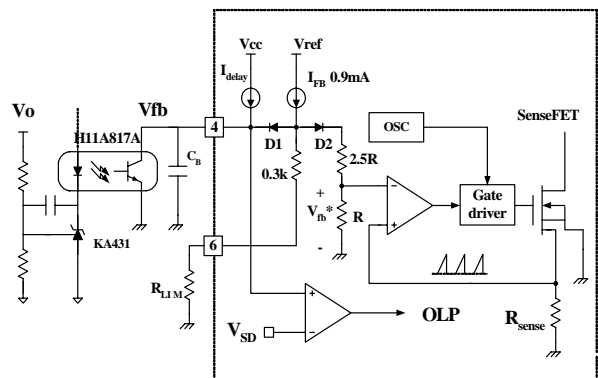

Figure 18. Pulse Width Modulation (PWM) Circuit
**2. Feedback Control:** The FSCM0765R employs current mode control, as shown in Figure 18. An opto-coupler (such as the H11A817A) and a shunt regulator (such as the KA431) are typically used to implement the feedback network. Comparing the feedback voltage with the voltage across the Rsense resistor makes it possible to control the switching duty cycle. When the reference pin voltage of the KA431 exceeds the internal reference voltage of 2.5V, the H11A817A LED current increases, thus pulling down the feedback voltage and reducing the duty cycle. This event typically happens when the input voltage is increased or the output load is decreased.
**2.1 Pulse-by-pulse Current Limit:** Because current mode control is employed, the peak current through the SenseFET is determined by the inverting input of the PWM comparator (Vfb\*) as shown in Figure 18. When the current through the opto transistor is zero and the current limit pin (#5) is left floating, the feedback current source (IFB) of 0.9mA flows only through the internal resistor (R+2.5R=2.8k). In this case, the cathode voltage of diode D2 and the peak drain current have maximum values of 2.5V and 3A, respectively. The pulse-by-pulse current limit can be adjusted using a resistor to GND on the current limit pin (#5). The current limit level using an external resistor (RLIM) is given by: